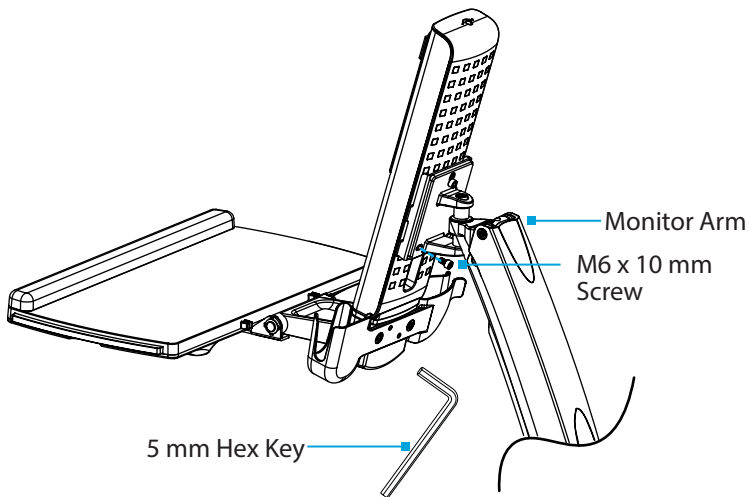

Figure 17
3. Insert the second **M6 x 10 mm Screw** into the hole, located on the **Plate** on the **Monitor Arm** and tighten, using the **5 mm Hex Key**. (Figure 17)